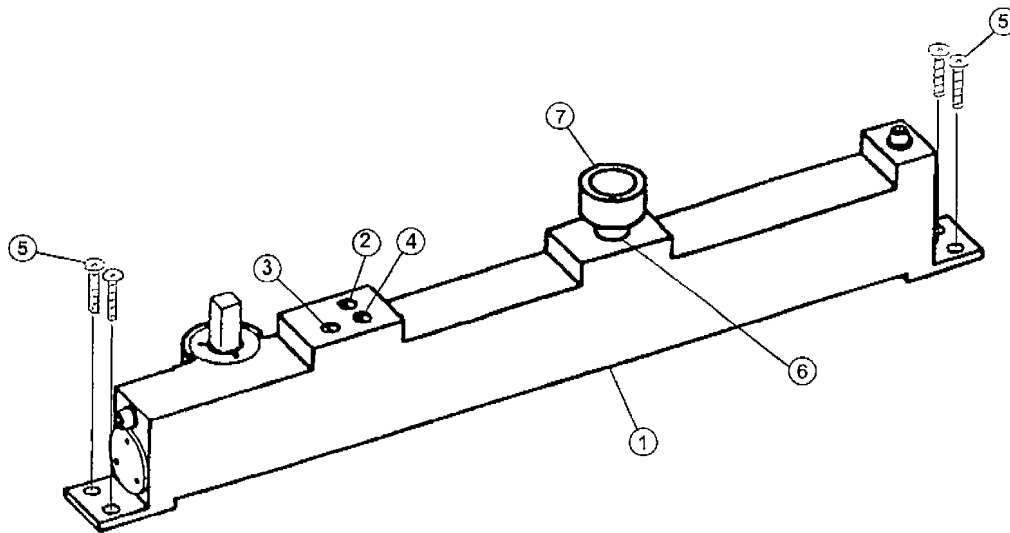

Figure 600-11.10. Typical Steel Products Balanced Door Operator (BDO); Right Hand BDO Shown.
600-11.4.2.3.1.3 Carefully open door to full open position and tilt the door away from guide track in the top of the door frame (toward the push/pull side of the frame) until the cam follower (6) (figure 600-11.10) is free of the guide track. Lift the entire door assembly out of the lower arm (7).
600-11.4.2.3.2.1 To reinstall door, extend upper and lower arms (2 and 7) to full open position, set door assembly on lower arm (7), and position cam follower (6) (figure 600-11.10) into guide track in the door frame.
Failure to unlock piston rod lock screw (2) (figure 600-11.10) after door panel is reinstalled on the frame will result in permanent damage to the BDO.
600-11.4.2.3.2.2 Carefully close arms and door while fitting vertical gear shaft into the upper arm (2), and open door to the full open position. Install upper arm block (4) and screw (5), and unthread the piston rod lock screw (2) (figure 600-11.10) until top of lock screw is flush with the top of the BDO housing.